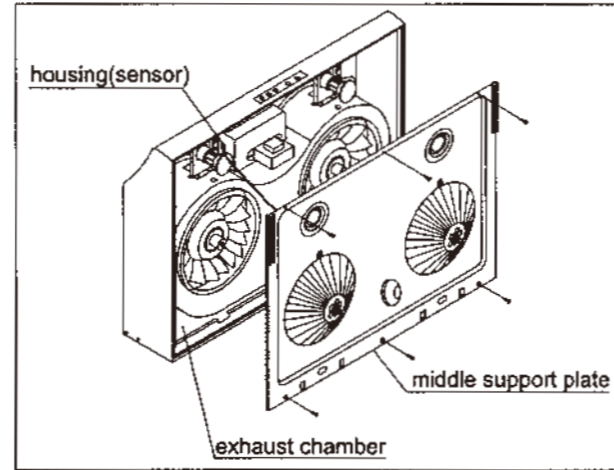
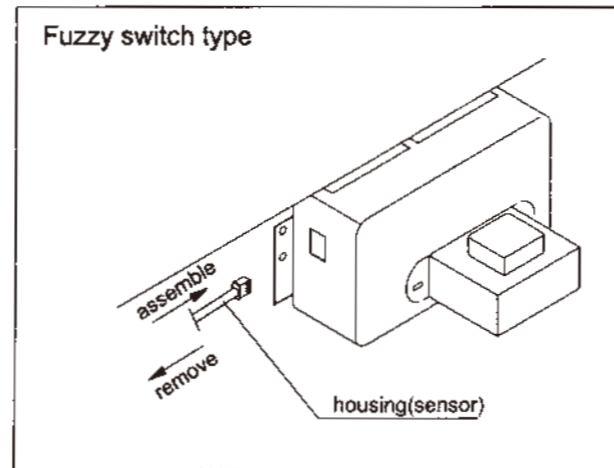

Fig. 12 Remove the middle support plate
Fig. 13 Plug the housing sensor
7. Loosen the screws on the middle support plate with a philips screwdriver. Remove the middle support plate and then pull out wire housing of sensor. After wire power supply cord, please make sure to plug the housing of sensor in before you re-screw the middle support plate up. (Fig.12/Fig.13)
12. After completed install, please assemble wire housing with lamp holder. (Fig. 13), then screw on middle support plate (Fig. 18).